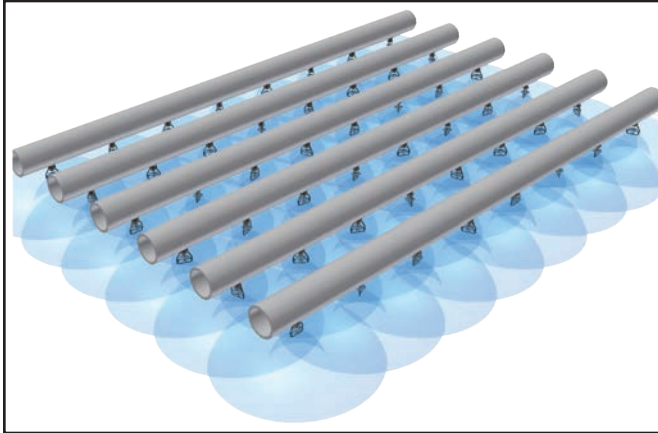

Figure 26 – Nozzle Spray Pattern
- Start the recirculating pump. Make sure the fan motor is locked out and tagged out. Check to see if the nozzles are all spraying consistently and producing the spray pattern shown in Figure 26.